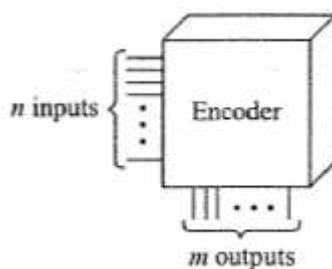

Figure: 4.24: Encoders
- As shown in Figure 4.24, there are 'n' input lines, only one of which is active.
- The switches are push-button switches like those of a pocket calculator (Figure: 4.24).